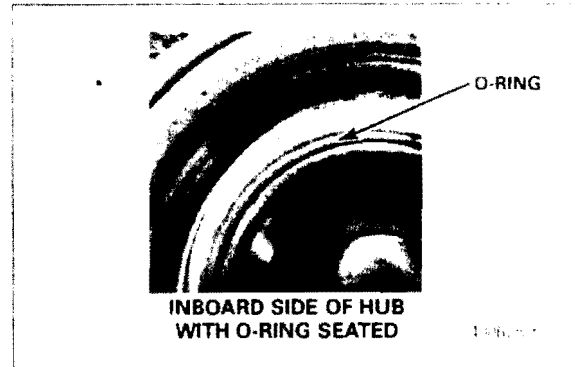

Figure 14
- 1 Ensure the O-ring (part number AM1205Q2747) between the bearing cartridge and the spindle shoulder is inserted into the groove and in place when the hub is installed. (Figure 14)